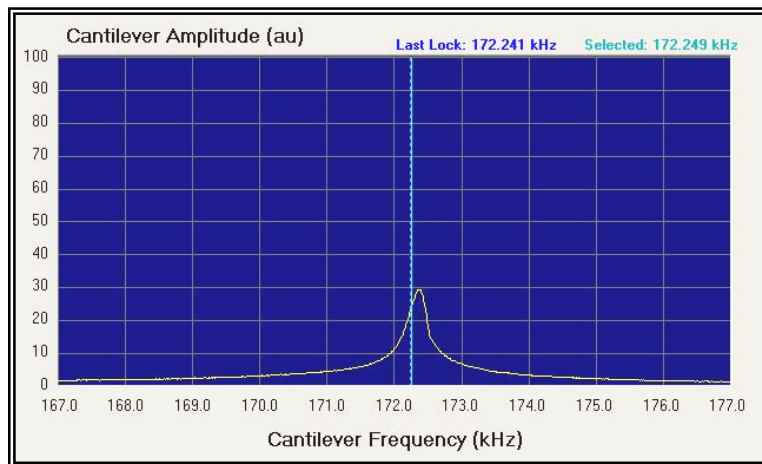

Figure 4-3 A 10kHz sweep through the cantiver resonance.
2. Narrow the frequency sweep to a 10 kHz interval about the main resonance by clicking the sweep display at the location of the peak. An expanded resonance curve will appear, similar to the one shown below in Figure 4-3.
3. For many imaging situations the best amplitude is about 30%, as shown in Figure 4-3. Adjust the amplitude slider accordingly.